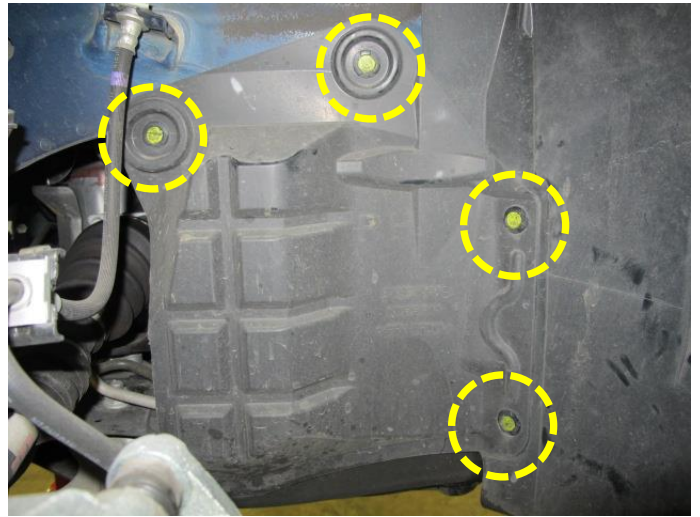

Figure 18
- Install (4) retainer clips
- Clips are highlighted in yellow in Figure 18